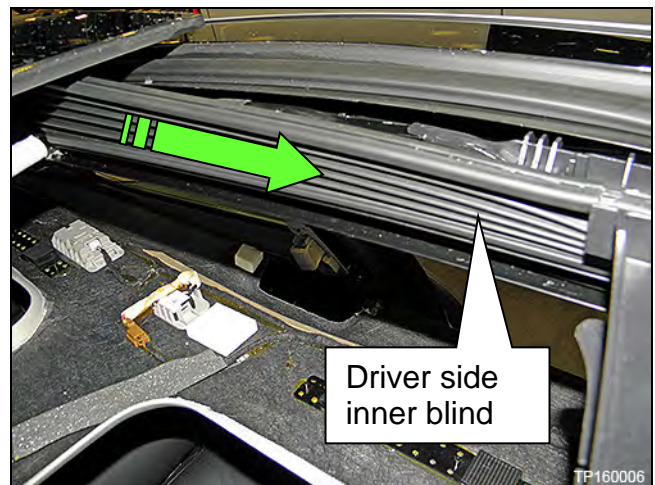

Figure 48
- d. Slide each inner blind off of the moonroof guides (Figure 48).